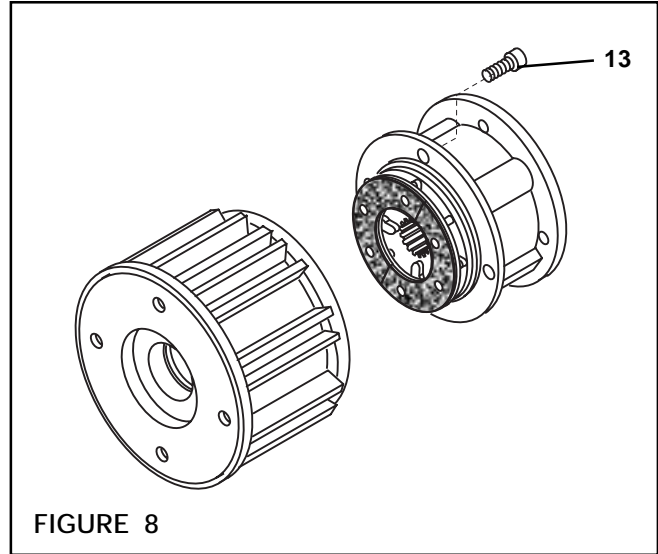

FIGURE 8
1. Remove the four Socket Head Cap Screws (Item 13) and separate the two halves of the FMCBE (See Figure 8).
9. Apply a drop of Loctite® 242 to the threads of the four Socket Head Cap Screws (Item 13) (See Figure 8).
10. Install and tighten the four Socket Head Cap Screws (Item 13) securing the two halves of the FMCBE to the recommended torque (See Figure 8 and Table 2).